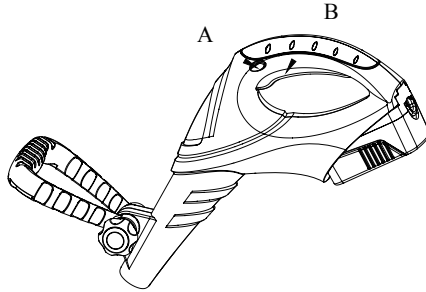

Fig 6
Grip rear handle and press trigger lock-off button (A) with thumb then pull trigger switch (B). (See FIG 6)